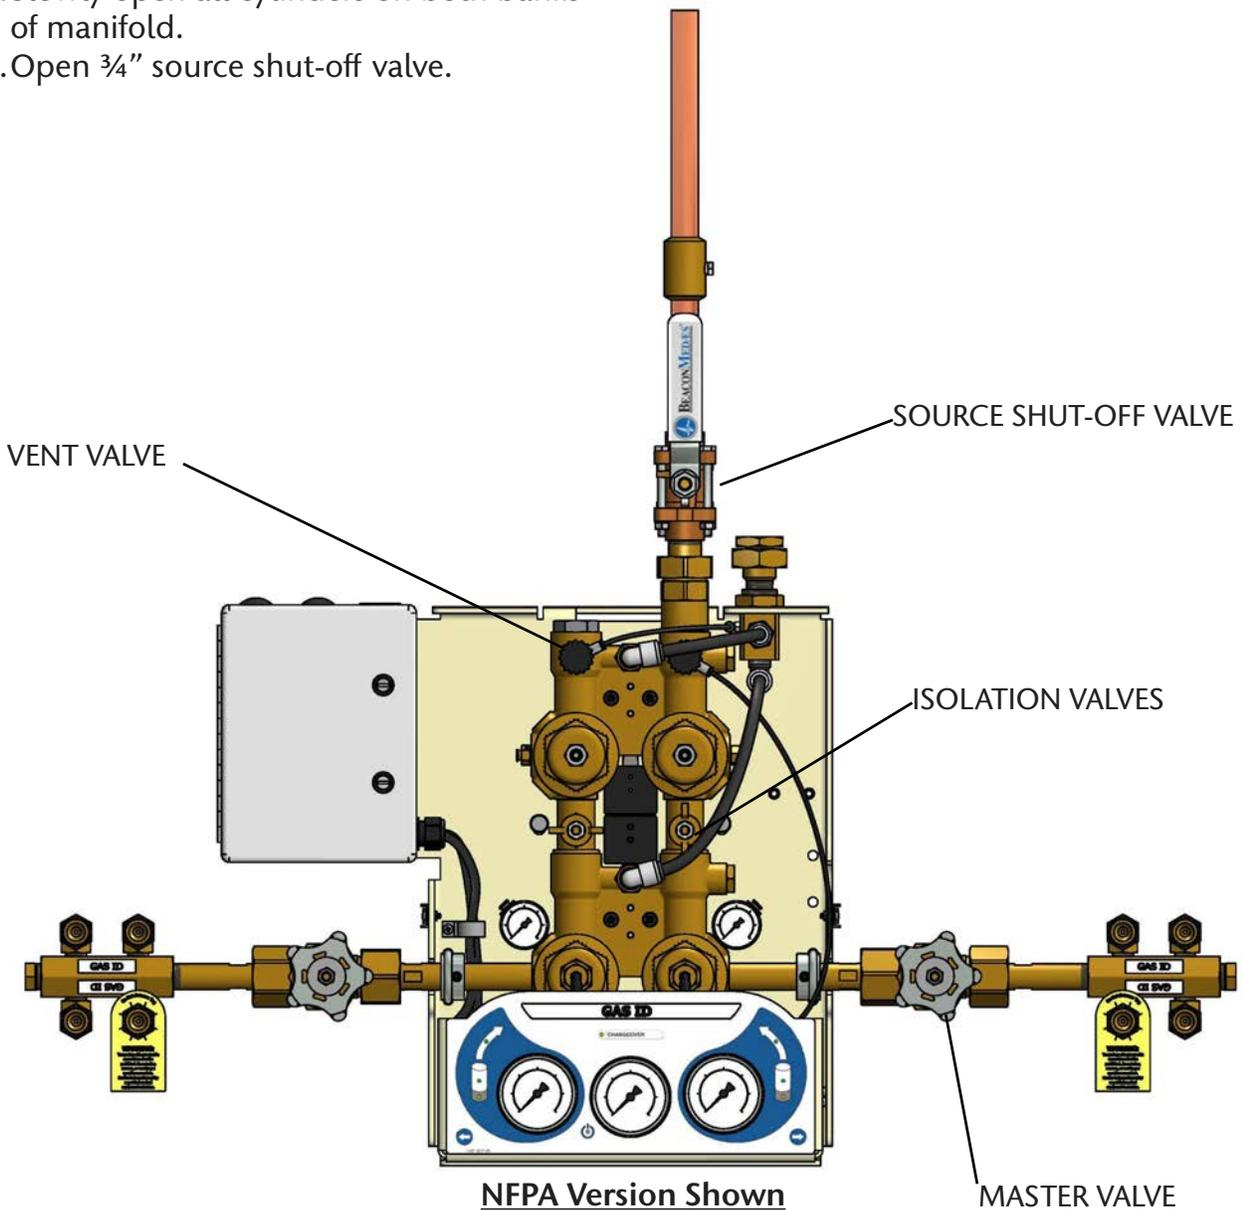
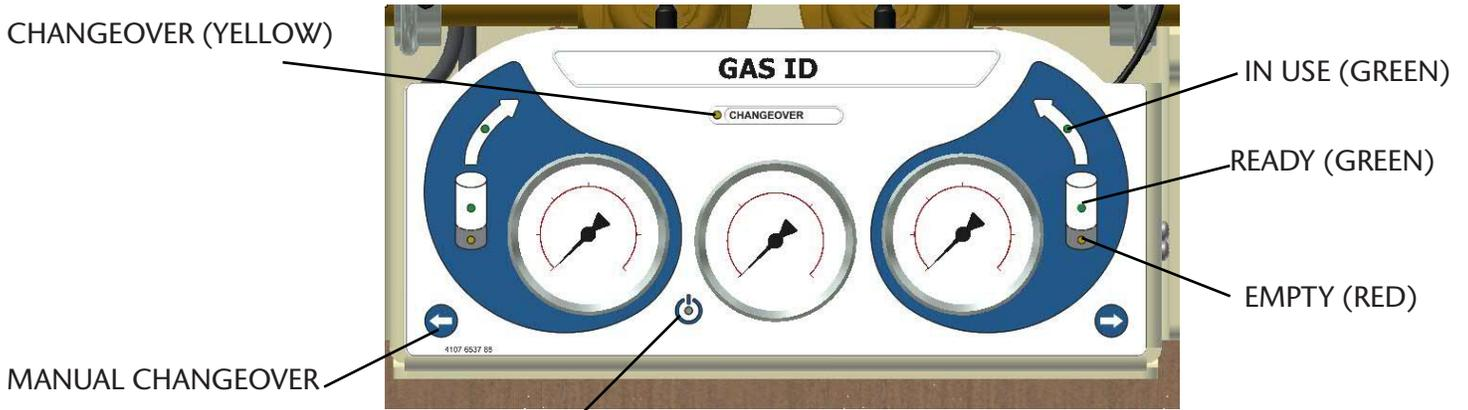

Figure 12
Figure 13: NFA Overlay
2. Verify the following: (Refer to Figure 12 for component location and Figure 13 & 14 for Light Location).
8. Close right bank cylinder. Slightly open vent valve (Figure 12). Verify the following:
Refer to Figures 13, 14, 15 & 16.